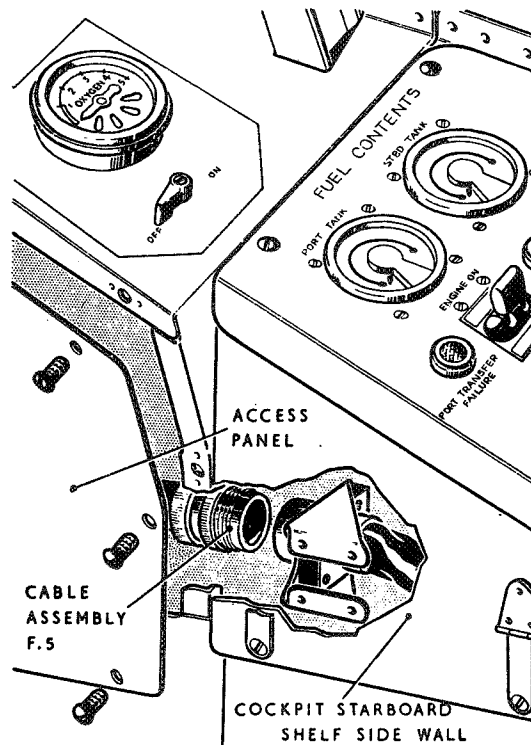

Fig. 5. Plug at forward end of cockpit starboard shelf
- (1) Render the aircraft electrically safe, as described in Group A1 of this chapter.
- (2) Disconnect all the plugs and sockets on the cable assemblies at the end plate at the rear end of the shelf. Seal off the plugs and sockets with approved caps and covers and stow the cable assemblies away from the shelf.
- (3) Disconnect cable assemblies F33 and F34 from the A.C. junction box, fit approved caps and covers to the plugs and sockets and coil back the cable assemblies to the starboard shelf.
- (4) Disconnect cable assembly F5 from the plug mounting bracket at the forward end of the shelf (fig. 5). Seal off the plug and socket with an approved cap and cover. Stow the cable assembly clear of the shelf.
- (5) Remove the mounting frame, carrying the D.M.E. control unit from the top surface of the shelf, by unscrewing the four screws. Disconnect the radio connector from the control unit and refit the mounting frame and control unit.
- (6) Release the emergency oxygen control cable duct, from the shelf side wall, by removing the bolt securing the clip around the top of the cable duct.
- (7) Release the shelf from the fixed structure by disengaging all the Dzus fasteners around the top face and side wall. Withdraw the shelf from the cockpit, complete with cable assemblies F33 and F34.